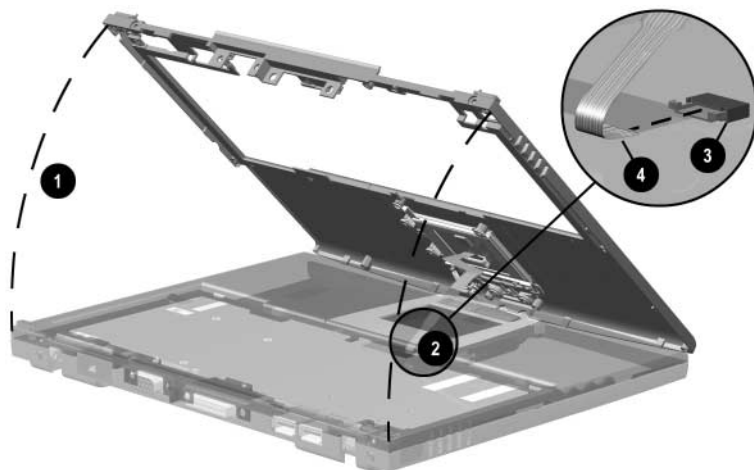

Figure 5-14. Removing the Top Cover
7. Lift up the back edge of the top cover ❶ until the TouchPad cable ❷ prevents it from lifting any farther (Figure 5-14).
8. Release the ZIF connector ❸ to which the TouchPad cable is connected and disconnect the TouchPad cable ❹.